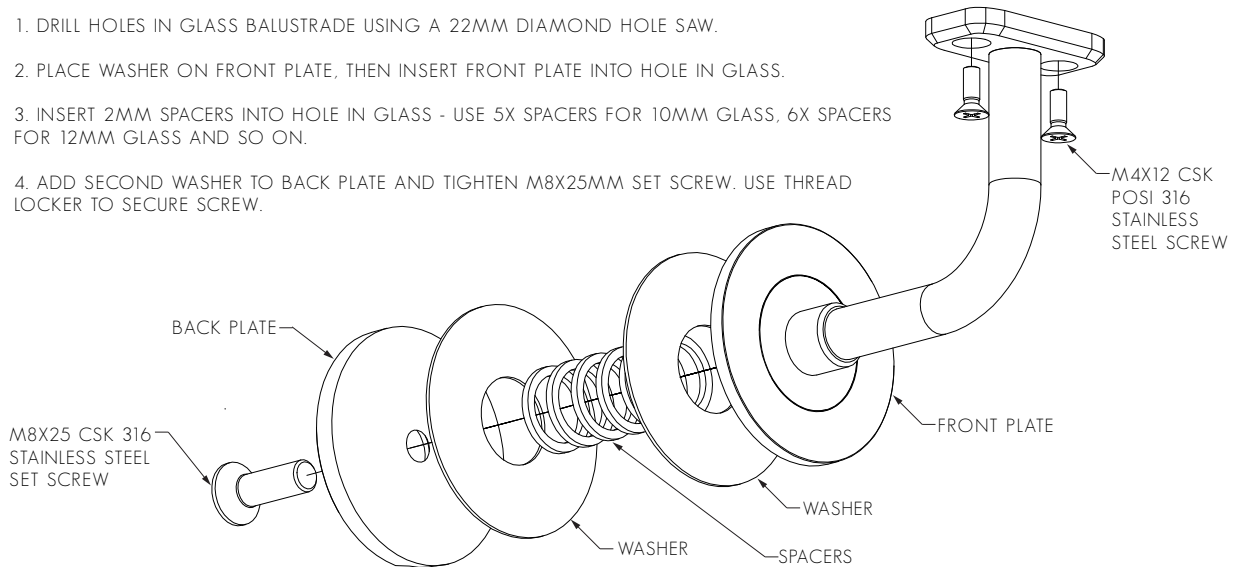

FIG. 3 - INSTALL POST-TOP BRACKETS, IF REQUIRED
7. SEE FIG. 1 ABOVE FOR MORE INFO. SEE FIGS. 3 & 4 FOR GLASS MOUNT AND POST TOP BRACKETS)